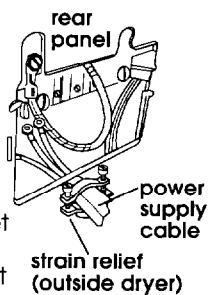

Figure 12
4. Attach 3/4" U.L.-listed strain relief (U.L. marking on strain relief) to the hole below terminal box opening (see Figure 12). Tighten strain relief firmly to cabinet so it is in a horizontal position. Place direct wire cable through the strain relief.